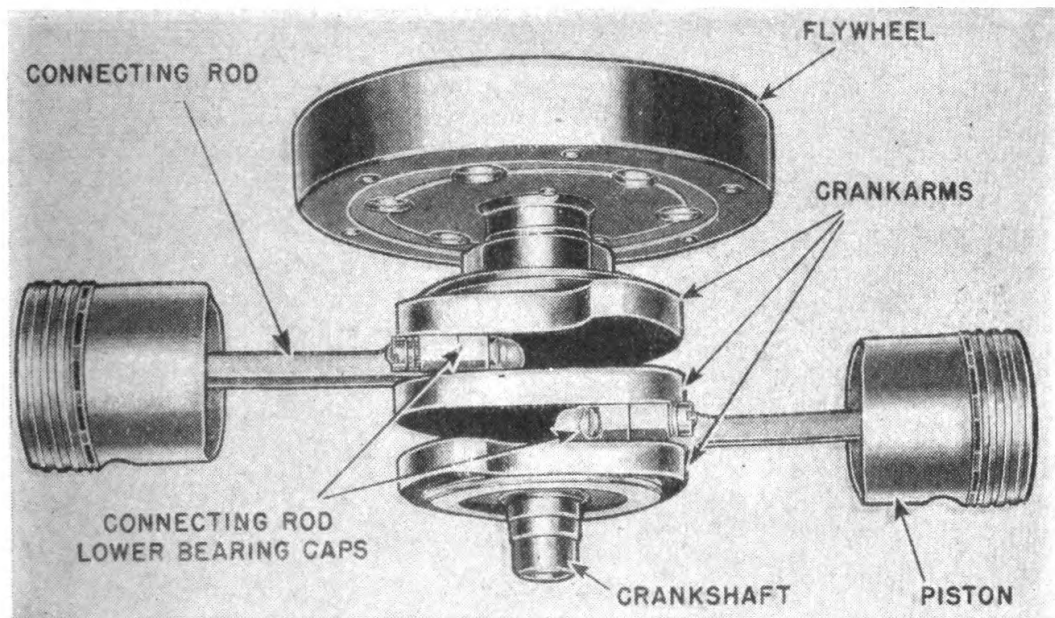

FIGURE 73.—Connecting rod and flywheel assembly (Harley-Davidson).
**62. Connecting rods.**—The two automotive-type connecting rods of the Harley-Davidson engine are mounted on roller bearings on separate journals of the two-throw crankshaft as shown in figure 73. The bearings are of the split type (upper and lower halves) which are easy to replace. The connecting rods and caps are originally paired and lapped in sets by the manufacturer and are not interchangeable. If
*b.* Only one flywheel is used on the Harley-Davidson engine. It is keyed to the rear end of the crankshaft (fig. 73) and forms the back-plate or driving face of the clutch assembly.